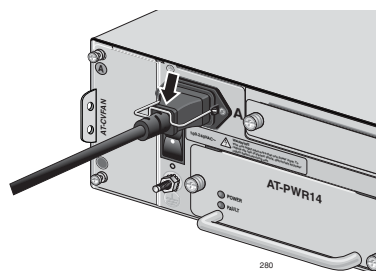

Figure 9. Securing the Power Cord with the Retaining Clip
4. Secure the cord by lowering the power cord retaining clip, as shown in Figure 9.